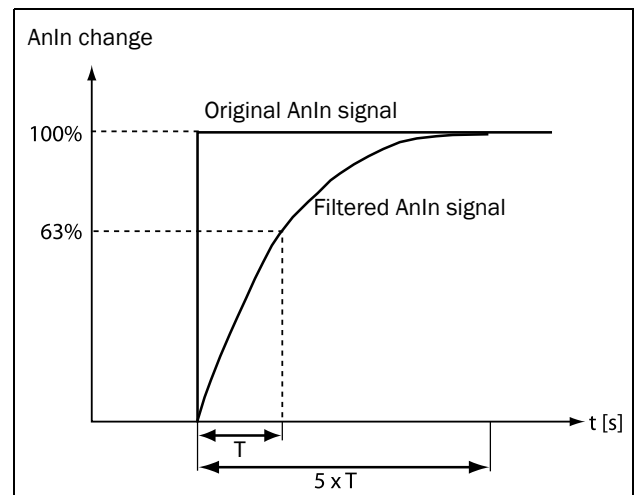

Fig. 87
If the input signal is unstable, the filter can be used to stabilise the signal. See Fig. 87. This will result in a 63% change of the input signal within the set “AnIn Filter time” (T). After 5 times the set time (i.e. 5xT), AnIn will have reached 100% of the input change.